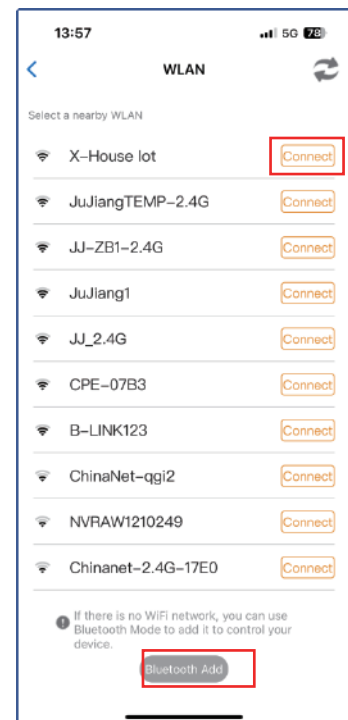

Fig 3
Step 2. Select the Wi-Fi, click the “Connect” and enter the password.(Fig 3) (If there hasn’t Wi-Fi can be connected, the user also can select the “ Bluetooth Add ” and use the Bluetooth function to control the gate nearby. Please follow the step 4).
Step 4: Bluetooth Add: When using Bluetooth mode control, the mobile app must be close to the device within Bluetooth range to connect and control, and only one user's phone can be connected at a time. (Fig. 3 and 4).